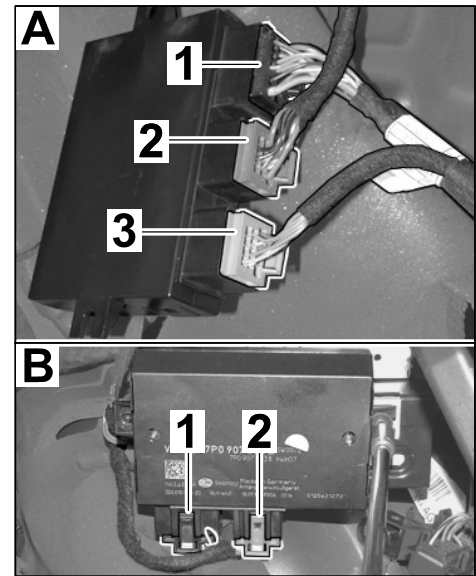

Figure 11
2.3.2 Connect plug connections to trailer hitch control unit (⇒ Figure 11).